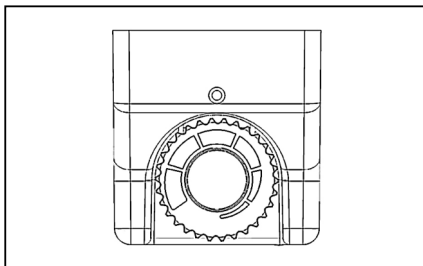

Figure 4.
5.2. Temperature regulation (fig. 4.)
The usual setting required is in the region of the middle of the thermostat knob (Fig. 4), but this can vary with conditions of load and installation. If it is found necessary to change the setting, the knob can be turned to a higher symbol to give a lower temperature, or a lower symbol to give a higher temperature. The effect of any adjustment can be checked by means of a thermometer when the refrigerator has reached the new temperature after some hours.
Fuzzi logic and times switch defrosting (fig. 4)